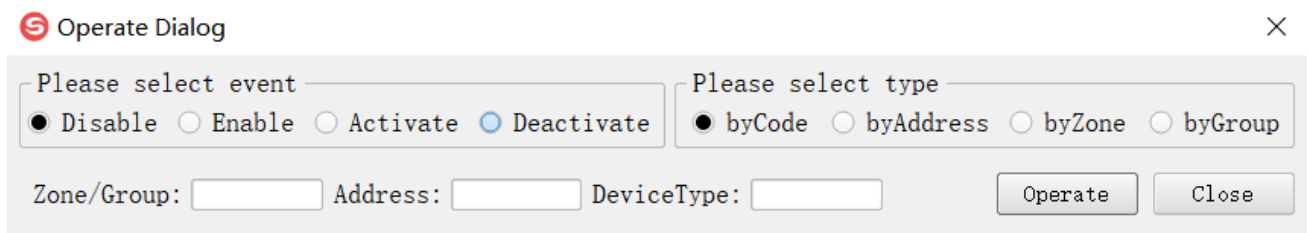

Fig.3-7 Operate
- Operate: Click it to send command (disable、enable、activation、deactivate) to control panel, pop-up window shown in Fig.3-7